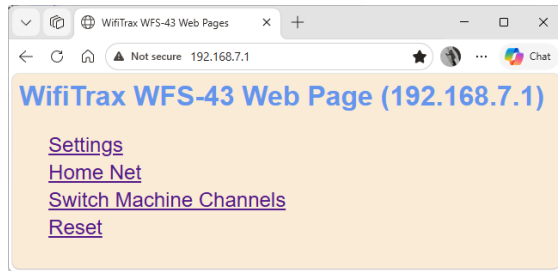

Figure 8. The Main Menu of the WFS-43
- (2) You will see the Main Menu page as in Figure 8